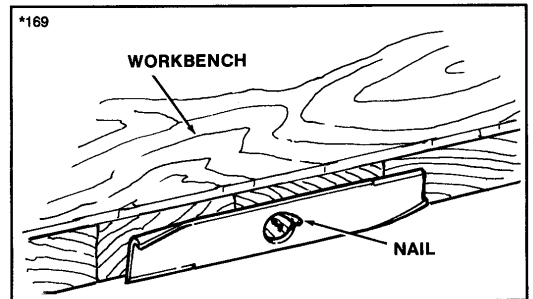

Figure 25. Balancing Blade
6. Check and balance blade. Use a balancing machine or the fixture shown in figure 25. Center the blade on a nail lubricated with a drop of oil. A balanced blade will remain level. File material off heavier end of blade until it is balanced.